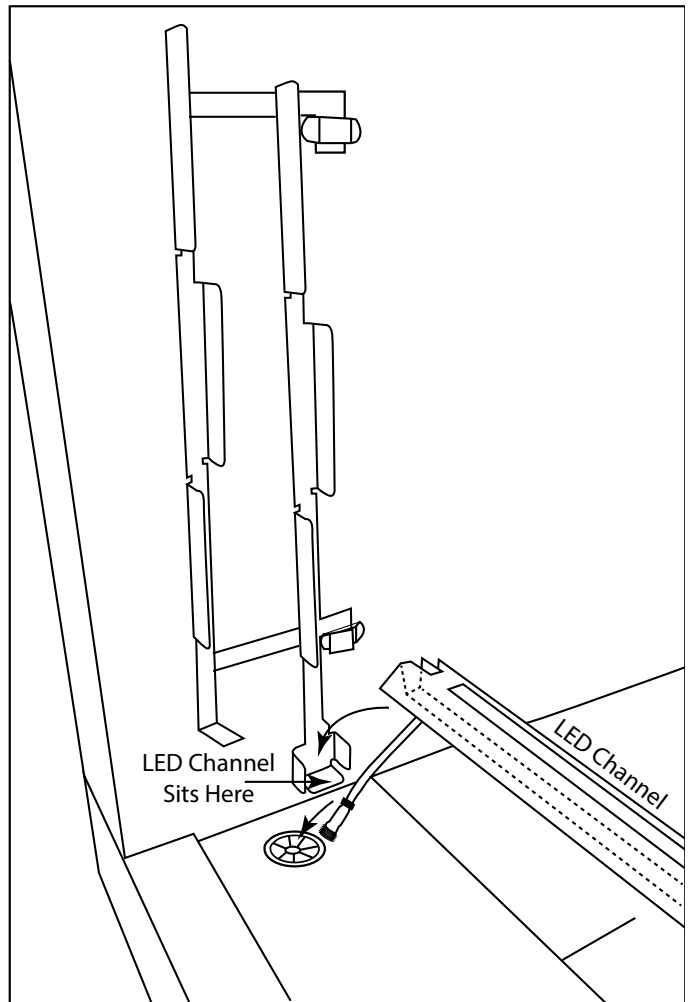

Fig. 8 LED installed in retainer clip inside fireplace
**Step 8:** If needed, remove the screws from the “bottom end” of the burner pan area to provide additional room for wiring the LED lights. The “bottom end” fills the space between the burner pan and the fireplace side panel. It is held into place with three (3) screws. See Fig. 8. After removing the screws lift up the area where the two screws were and push down where the single screw was, then lift the bottom end out of the fireplace.